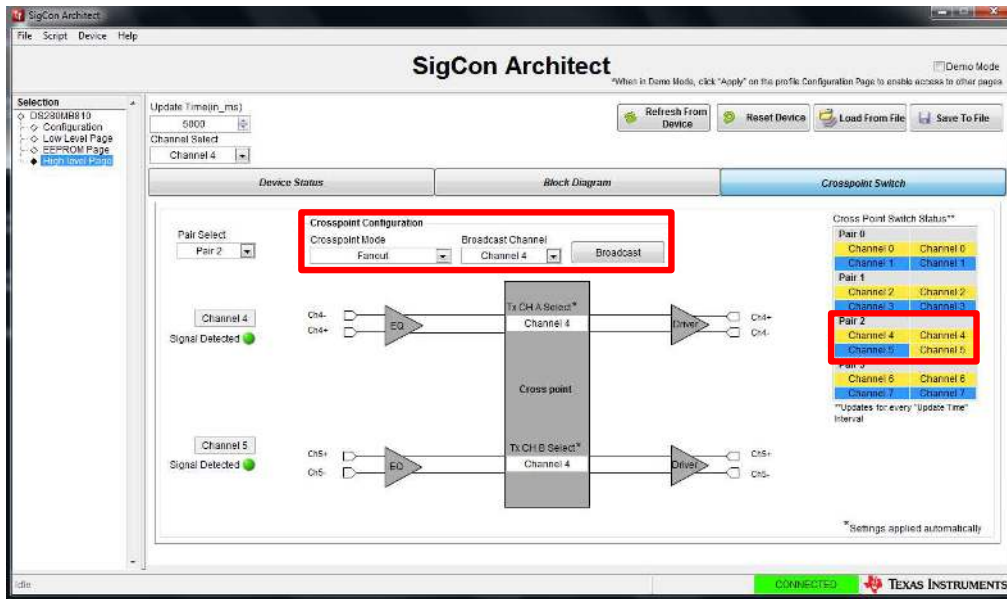

Figure 9. SigCon Architect High Level Page: Crosspoint Switch.
11. In order to program each of the internal 2x2 crosspoints, navigate to the “Crosspoint Switch” tab on the “High Level Page” as shown below in Figure 9. The Crosspoint Switch Status of the entire device is displayed on the right-hand side. The colors help to show the configuration of each channel in the DS280MB810.